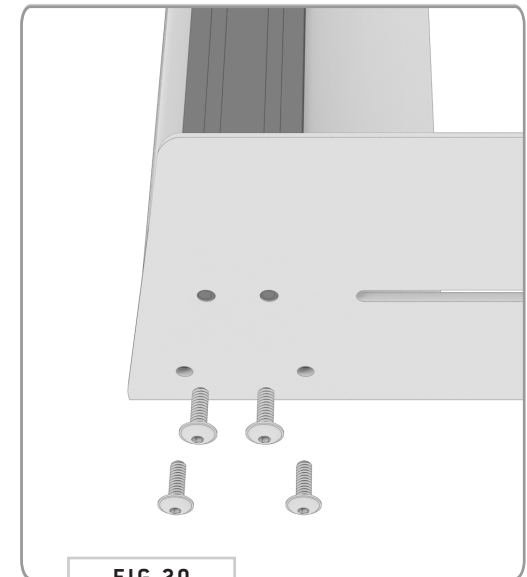

FIG 20
**6.3 Fairing Install:** Now you're ready to attach the Rear Spoiler to the roof rack. Slide it in from the back and into the location shown in FIG 20 and tighten down using (8) 1/4-20" Flange Head Screws.